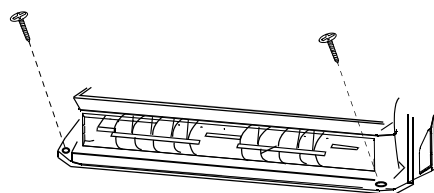

Fig3
- Remove the front panel,then use two expansible screws to fix the unit on the floor. As figure 3 shown.